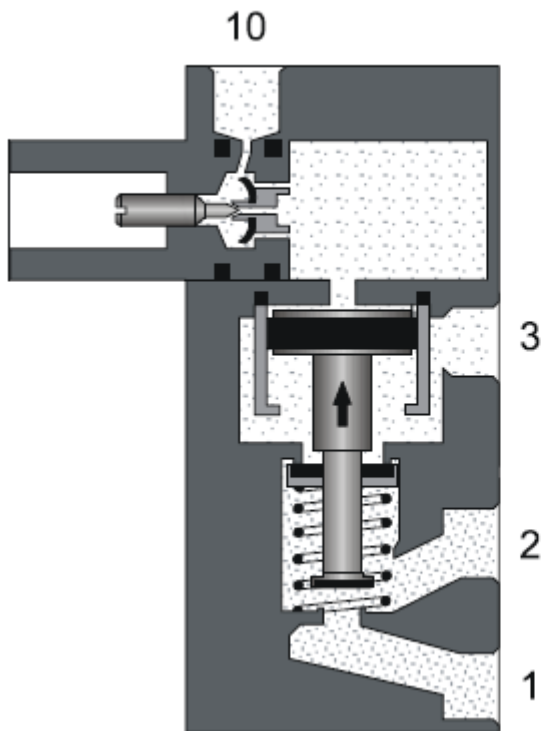
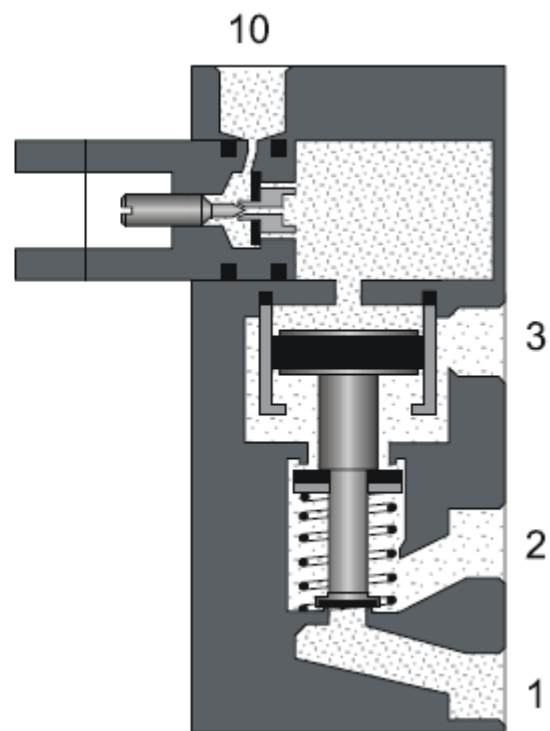

FIG 4.
FIG 5.
- A. The following operational principle applies for a time delay valve with a 3/2-way valve in normally closed position: (Fig 4)
- The compressed air is supplied to the valve at connection port 1 (P). The control air flows into the valve at port 10 (Z) through a one-way flow control valve and depending on the setting of the throttling screw, a greater or lesser amount of air flows per unit of time into the air reservoir. When the necessary control pressure has built up in the air reservoir, the pilot spool of the 3/2-way valve is moved downwards. This blocks the passage from port 2 (A) to port 3 (R). The valve disc is lifted from its seat and thus air can flow from port 1 (P) to port 2 (A). The time required for pressure to build up in the air reservoir is equal to the control time delay of the valve.
- If the time delay valve is to switch to its initial position, the pilot line (port 10 / Z) must be exhausted. The air flows from the air reservoir to atmosphere through the bypass of the one-way flow control valve and then to the exhaust line. The valve spring returns the pilot spool and the valve disc seat to their initial positions. Working line (port 2 / A) exhausts to port 3 (R) and port 1 (A) is blocked.
B. The normally open time delay valve includes a 3/2-way valve which is open. Initially the output port 2 (A) is active. When the valve is switched by a signal at port 10 (Z), the output port 2 (A) is exhausted to port 3 (R) and port 1 (P) is closed. The result is that the output signal is turned off after a set time delay. The time delay corresponds to the pressure build up in the reservoir again. If the air at port 10 (Z) is removed, then the 3/2-way valve assumes the normal position. (Fig 5)